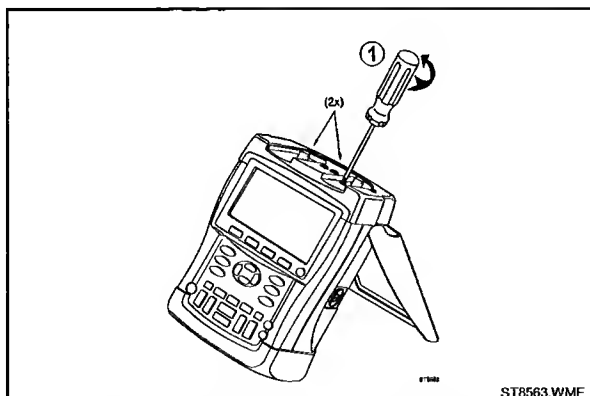

Figure 6-1. Loosen 2 Input Cover Screws
1. Loosen the two M3 Torx screws that secure the input cover (Figure 6-1).